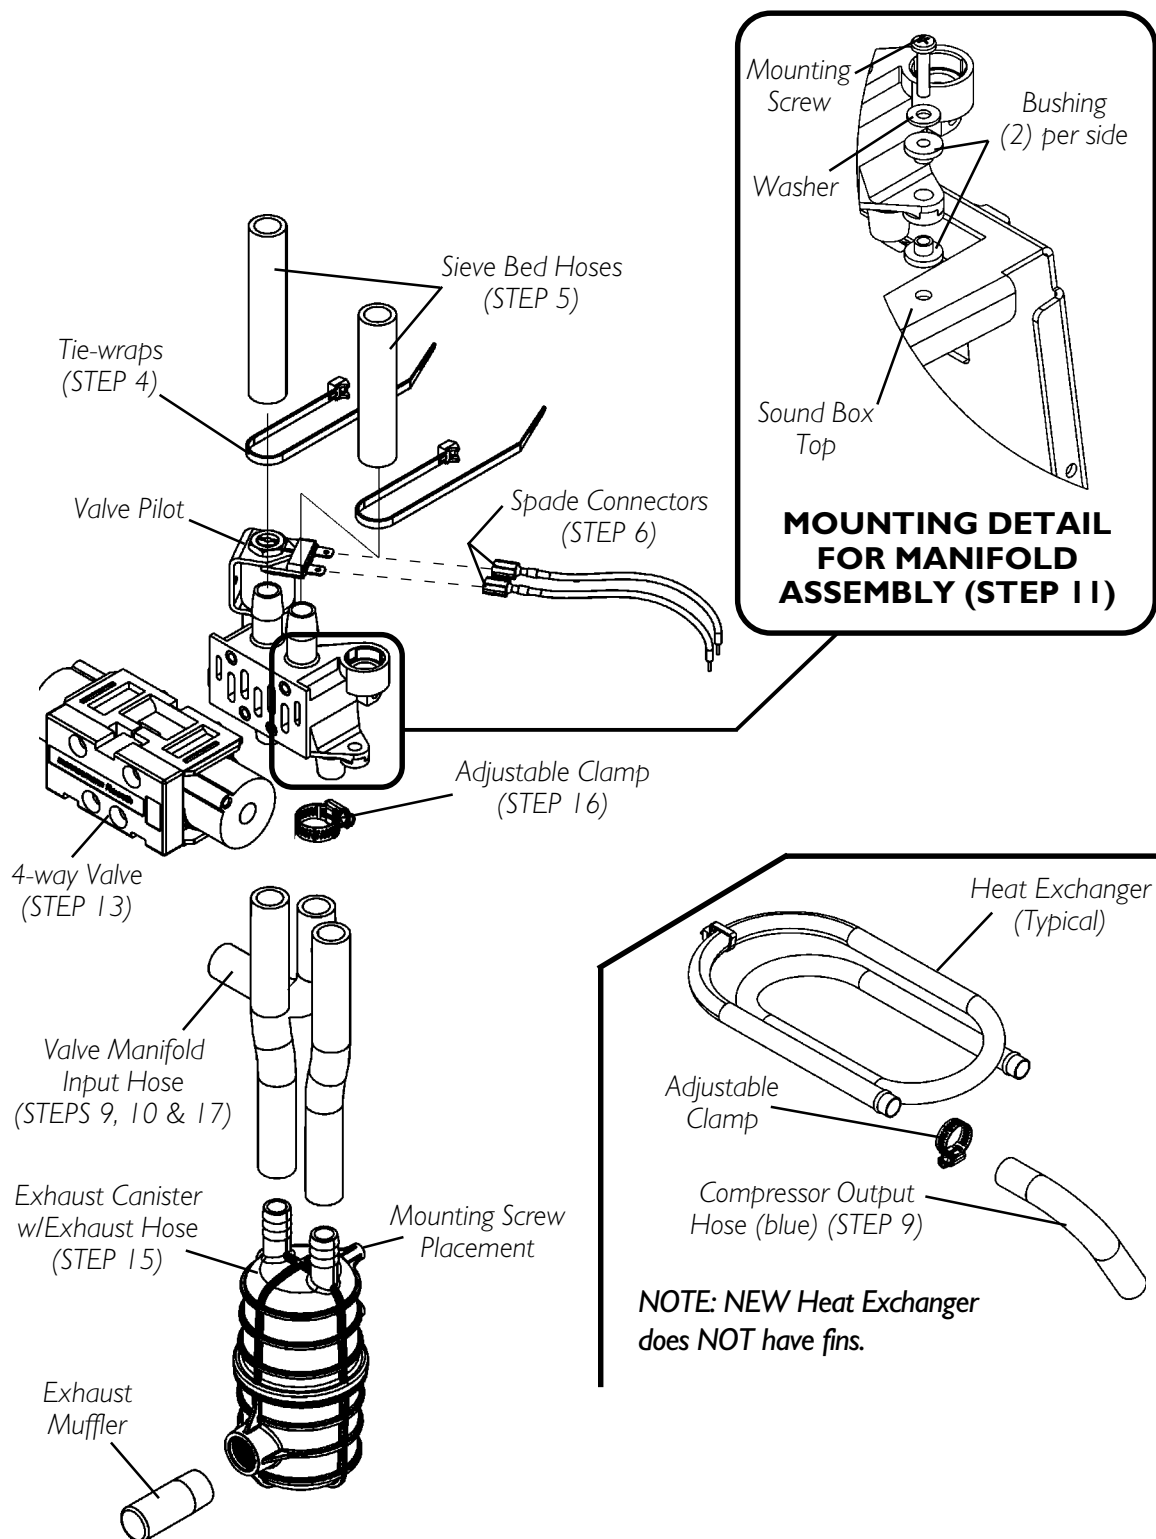

FIGURE 2 - REPLACING 4-WAY VALVE MANIFOLD ASSEMBLY
REPLACING 4-WAY VALVE MANIFOLD ASSEMBLY (FIGURE 2)**WARNING**
4. Remove the tie-wraps connecting the sieve bed hoses to top of manifold assembly. Refer to FIGURE 2.
6. Remove and code the two (2) spade connectors from the valve pilot on top of the manifold assembly.
11. Remove the two (2) mounting screws, washers (1 per side) and bushings (2 per side) securing the 4-way valve/manifold assembly to top of sound box.
15. Loosen the adjustable clamp on valve manifold input hose to bottom center port of manifold assembly. Refer to FIGURE 2.
16. Remove valve manifold input hose from bottom center port of manifold assembly. Refer to FIGURE 2.
18. Slide 4-way valve/manifold assembly complete through the cutout in top of sound box then install the two (2) mounting screws, washer and bushings into the manifold to secure the 4-way valve assembly to the top of sound box.
21. Plug unit in and turn power **ON (I)**.